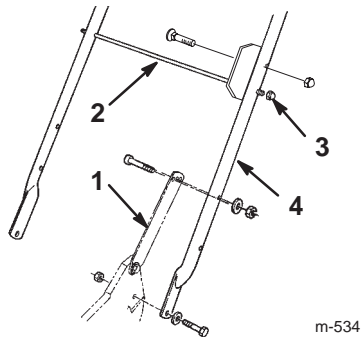

Figure 2
2. Secure the handle latches to the handle with 2 bolts (5/16–18 x 1-1/2 in.), washers, and nylon insert locknuts (Fig. 2).
3. Slide the bag support rod through the **top** mounting holes in the handle and secure each end with a cap locknut (Fig. 2).